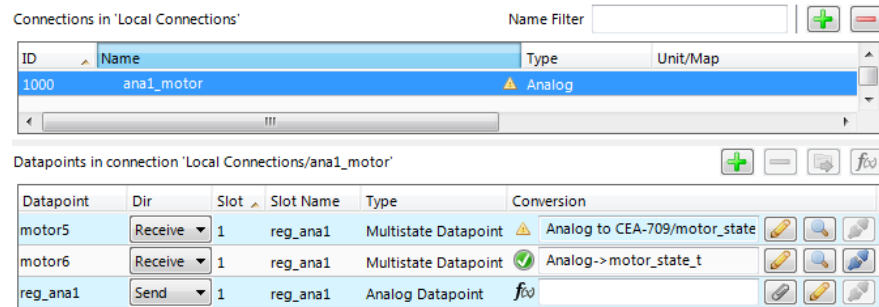

Figure 15: Connection tab with a connection and data points.
- Now the connection tab contains the new connection and below the list of data points in that connection as shown in Figure 15.